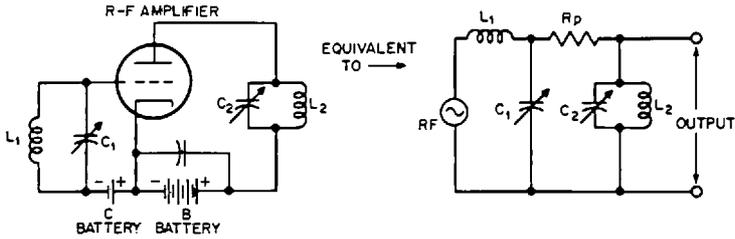
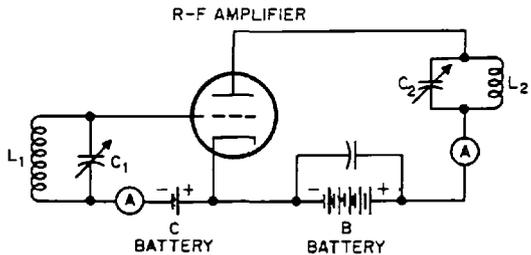

Fig. 41-21. Diagram showing the equivalent circuit of a radio-frequency amplifier.  $R_p$  is the internal resistance of the tube.
Fig. 41-22. Diagram showing how direct-current milliammeters are hooked into the grid and plate circuits of the radio-frequency amplifier to test for resonance.
**Testing for Resonance.** The principle of resonance must be applied to continuous-wave transmitters. Let us investigate this problem now. In Figure 41-21 we have a diagram of the radio-frequency amplifier with its equivalent circuit. Note that the grid tank circuit ( $L_1$  and  $C_1$ ) is a *series* resonant circuit, but that the plate tank circuit ( $L_2$  and  $C_2$ ) is a *parallel* resonant circuit. Both of these tank circuits may be tested for resonance by connecting milliammeters in the grid and plate circuits as shown in Figure 41-22.